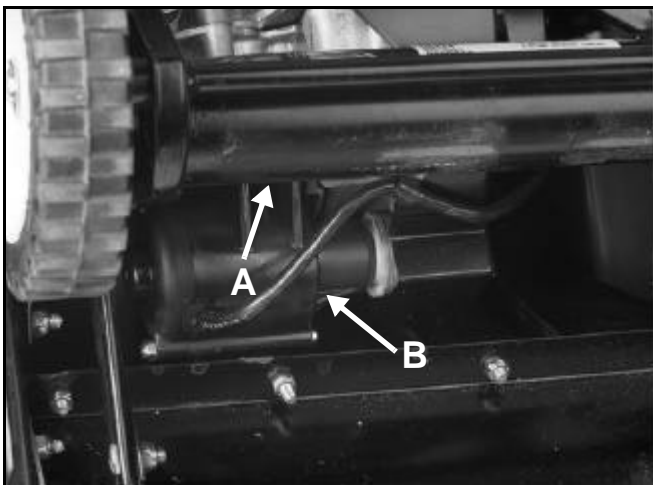

Figure 148
12. Remove the second starter bolt and remove the starter assembly, wire harness, and starter switch box (Figure 148).